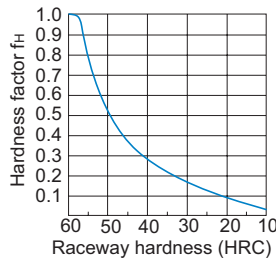

Fig.1 Hardness Factor (f_H)
- f_H : Hardness factor (see Fig.1)